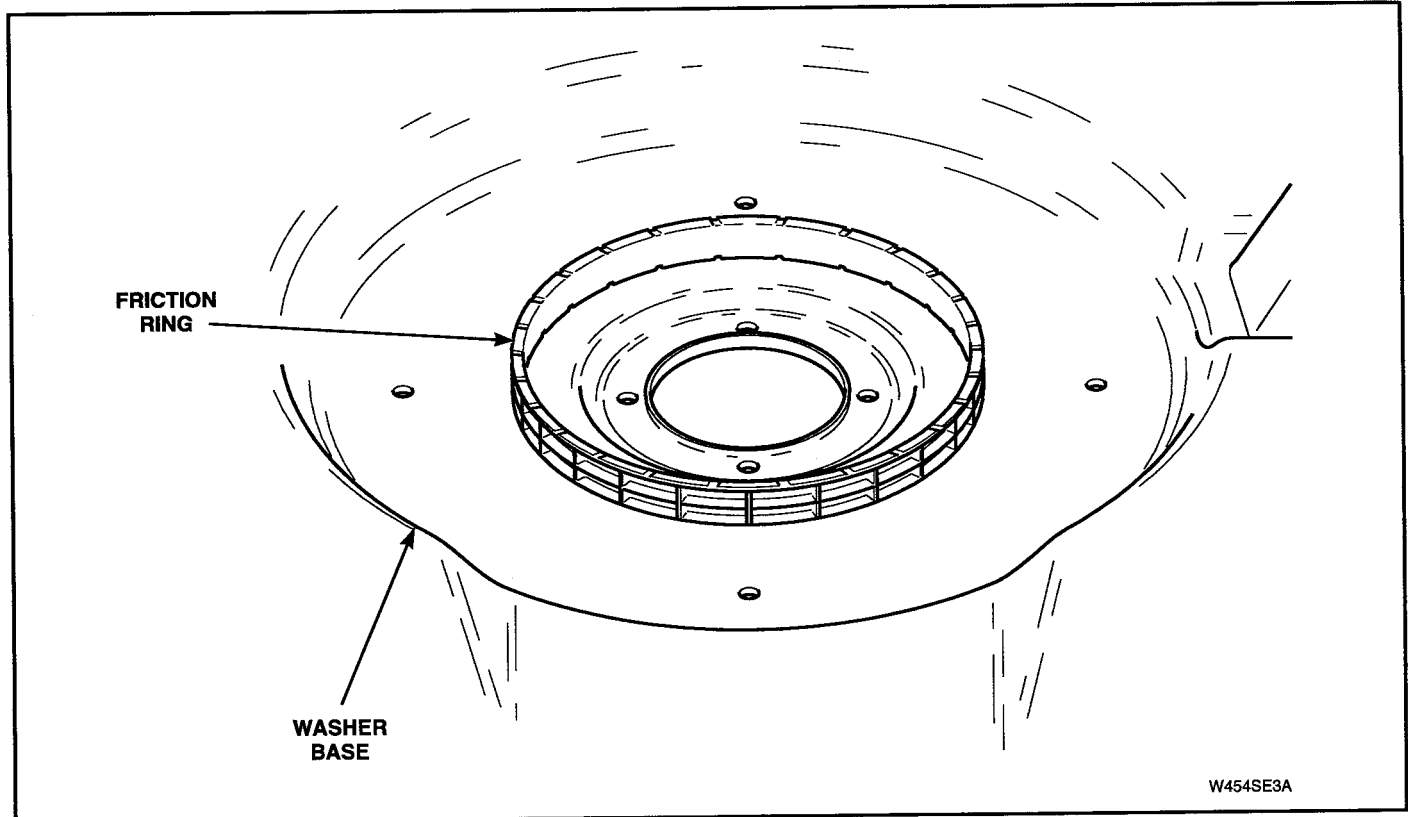

Figure 5-40
- k. Remove old friction ring from washer base. See Figure 5-40.
- m. Carefully place complete tub module back into washer making sure the weldment assembly (pivot dome area) is positioned properly over the friction ring and the recess area of washer base. See Figure 5-40.